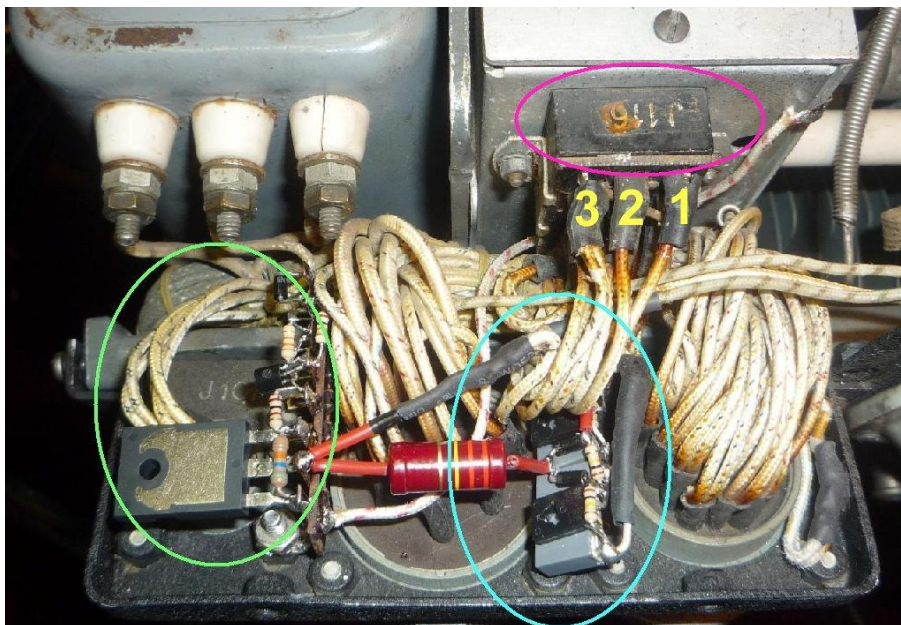

Figure 4.4 – Spot & CW Modifications Circuit in Practice
The circuit has been placed in the space existing under the protective cap covering the three plug receptacles, see Figure 4.4. The “muscle” is in the blue circle, the brain in the green one.
- 2) Step 2 - Enabling the HFO oscillator when in CALIBRATE. Before doing anything else, you must get familiar with the numbering scheme of the K102 relay, which can be easily understood looking to Figure 4.4, where the K102 rectangular connector (marked J116) is identified by a purple circle. The three contacts of the upper row are marked (in yellow) 1, 2 and 3, right to left. The contacts of the underlying row are 4, 5 and 6, still right to left, and so on.